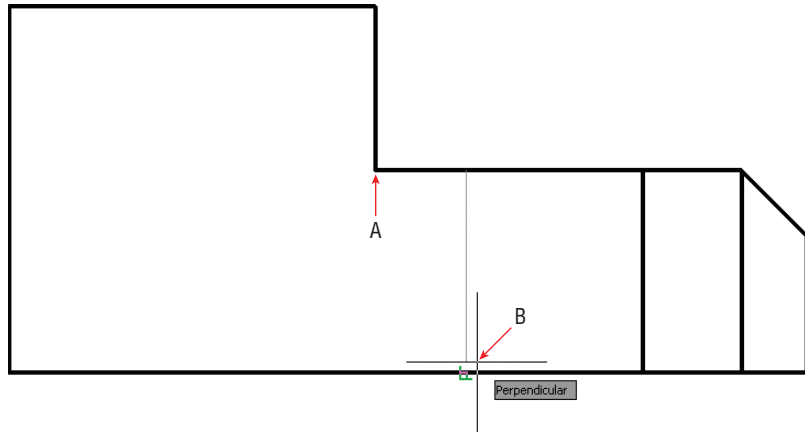

FIGURE 3.15 Drawing a line using the From object snap
3. Click point A shown in Figure 3.15. This is the point from which you will specify a displacement. Type **@6"<0** (or **@150<0** for metric) to specify the displacement to the first point of the line and press Enter.